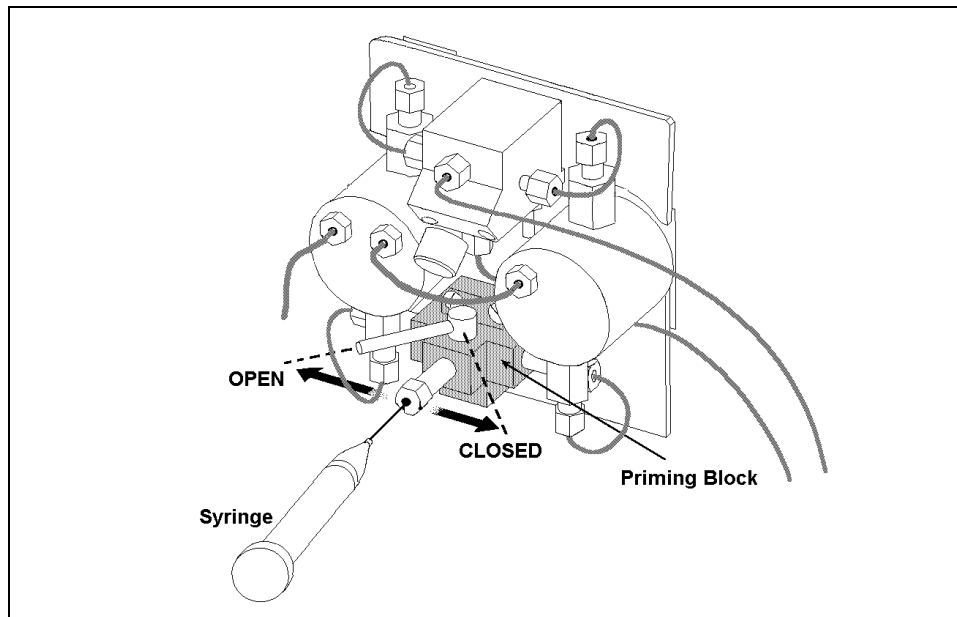

Figure B-4. Priming the Eluent Valve Manifold
5. Connect a 10 mL syringe (P/N 016387) to the luer adapter on the priming block. Turn the lever on the priming block all the way to the left to its maximum open position (see Figure B-4).
9. When the manifold has been primed with each eluent, move the lever on the priming block to the right to its fully closed position (see Figure B-4).